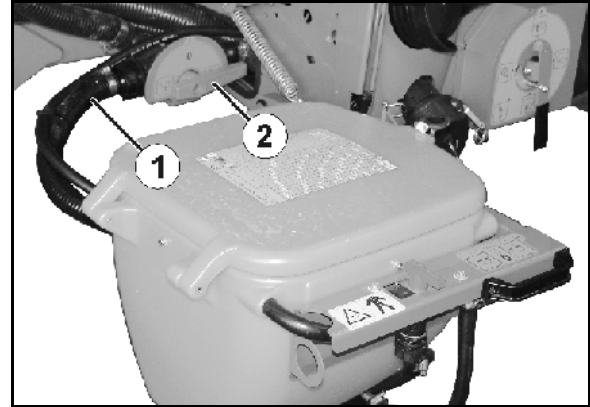

Fig. 122
8. Detach the hose (Fig. 122/1) from the switch tap **F**.
Swivel the switch tap **F** (Fig. 122/2) to position